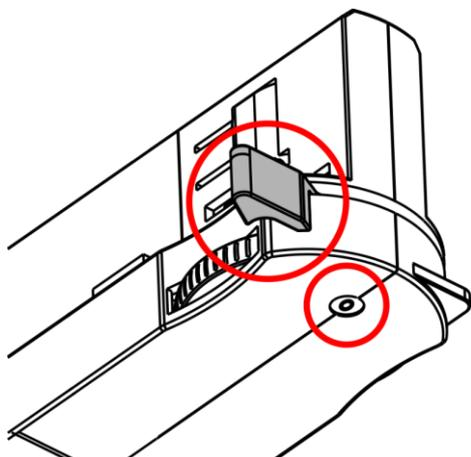

Fig. 04
- 02) Make sure that the **circuit selector (03)** is in OFF position (0) and the **track lock (02)** is in unlocked position, as shown in Fig. 04.